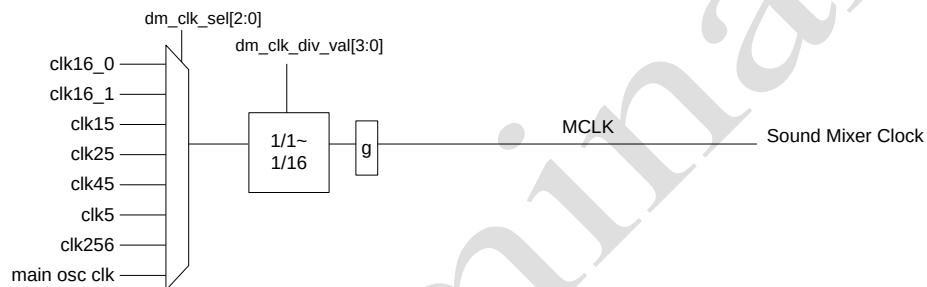

Figure 22-3 Sound Mixer Pre-Scaler
*** As shown in the Figure 22-3, there are eight possible sources for MCLK. The selected clock can be further divided by any ratio from 1 to 1/16 before going to the Sound Mixer module. (Refer to 4.2 Clock control)